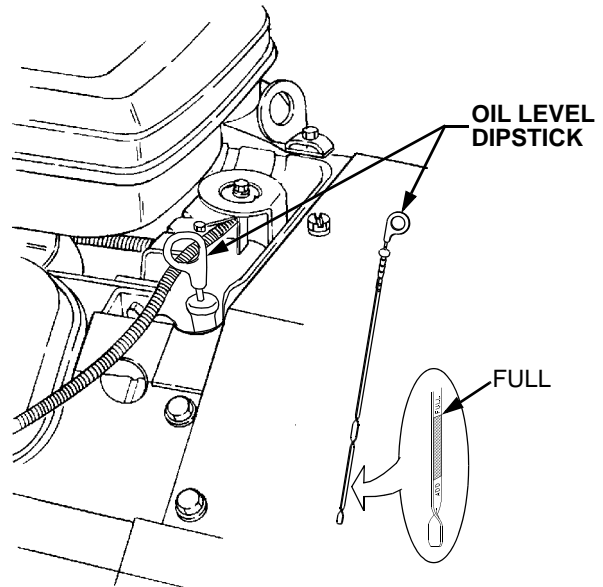
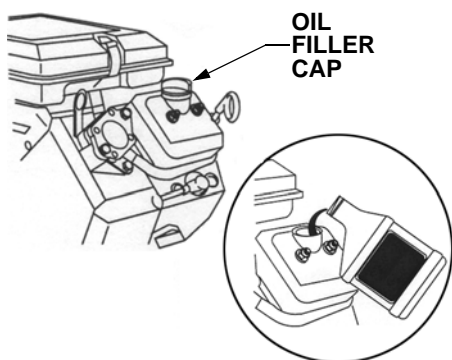

Figure 20
Figure 21
Before each use, the oil level of the engine crankcase should be checked to see that it is filled to the correct level. Close monitoring of the oil level during the first 10 hours of operation of the engine is especially important. Before checking the oil level, clean the area around the oil level dipstick to prevent debris from entering the crankcase. Always keep the oil level up to the "FULL" mark on the dipstick (See Figure 20). When checking the oil level, the engine must be cold, the dipstick must be withdrawn and wiped clean, then pushed fully into the tube before being withdrawn for a true reading.
2. Clean the area around the oil filler cap to prevent debris from entering the crankcase. See Figure 21.
3. Unscrew the oil filler cap from the right valve cover and SLOWLY pour in oil (See Figure 21). Fill the crankcase until the oil level reaches the "FULL" mark on the dipstick (Refer to Figure 20).
3. Remove the oil filler cap from the valve cover and SLOWLY pour in oil. The oil capacity is approximately 1-1/2 quarts. Fill the crankcase until the oil level reaches the "FULL" mark on the dipstick (Refer to Figure 20).